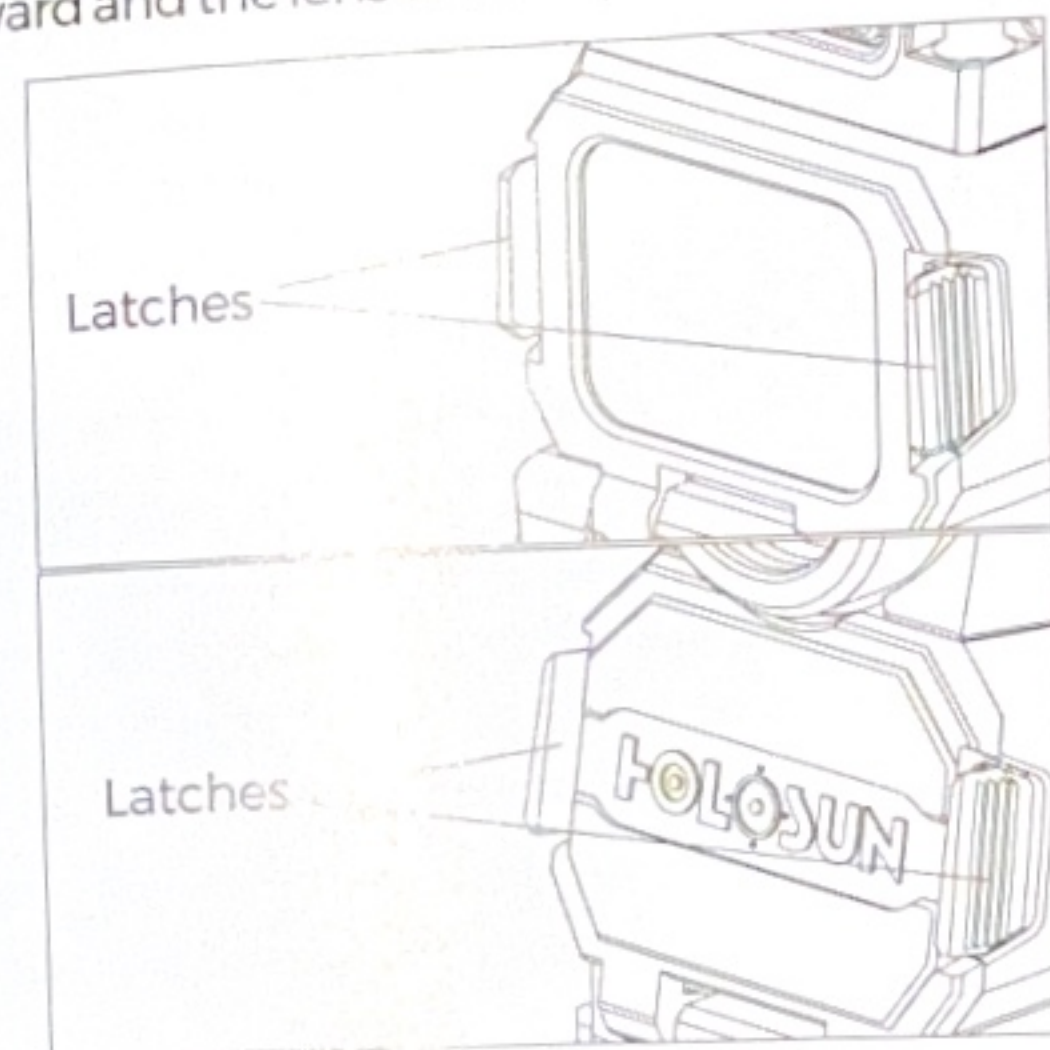

Fig 23
2. To open the front and rear lens covers of the red dot sight, press the latches on both sides of the lens covers inward and the lens covers open. (See Figure 23)